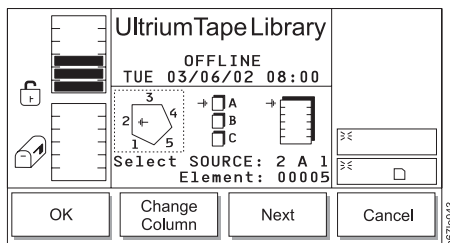

Figure 4-64. Source Move Media Dialog
3. Press the button below the **Move Media** softkey. The Source Move Media Dialog displays (see Figure 4-64) with a message area that shows three icons:
The position of the arrow in each of the three icons identifies the storage slot's physical address. For example, arrows that point to a column 2, magazine A, and storage slot 1 indicate a physical address of 2 A 1. In the Source Move Media Dialog, a slot's physical address displays below the right icon (see Figure 4-64).